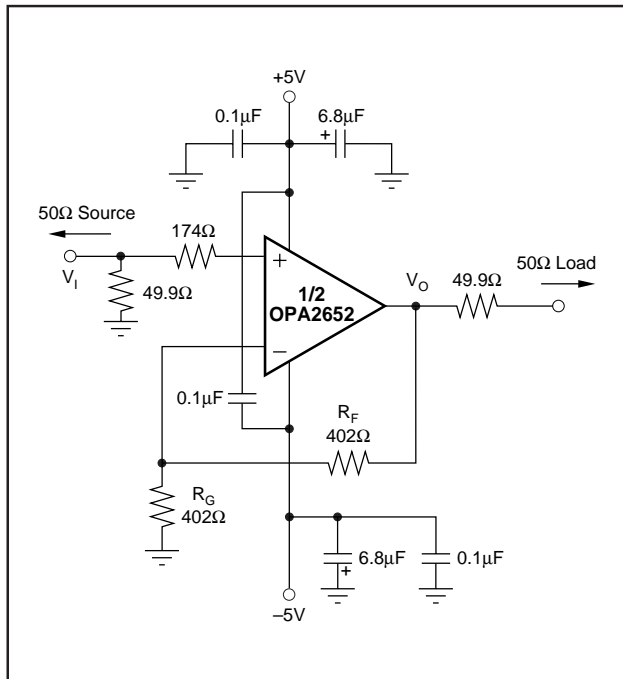
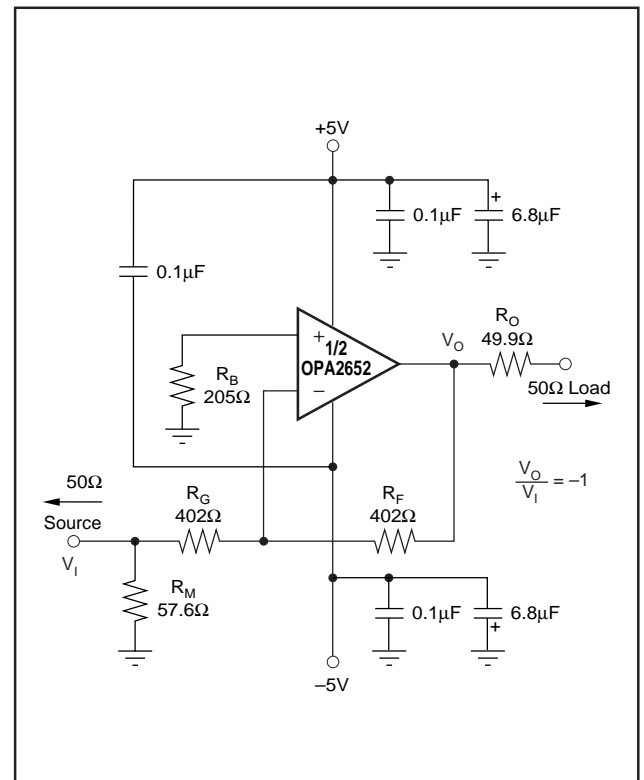

FIGURE 1. DC-Coupled,  $G = +2$ , Bipolar Supply, Specification and Test Circuit.
FIGURE 2. DC-Coupled,  $G = -1$ , Bipolar Supply, Specification and Test Circuit.
At  $T_A = +25^\circ C$ ,  $G = +2$ ,  $R_F = 402\Omega$ , and  $R_L = 100\Omega$ , unless otherwise noted. See Figures 1 and 2.
Figure 1 shows the DC-coupled, gain of +2, dual power supply circuit configuration used as the basis of the  $\pm 5\text{V}$  Specifications and Typical Performance Curves. This is for one channel. The other channel is connected similarly. For test purposes, the input impedance is set to  $50\Omega$  with a resistor to ground and the output impedance is set to  $50\Omega$  with a series output resistor. Voltage swings reported in the specifications are taken directly at the input and output pins, while output powers (dBm) are at the matched  $50\Omega$  load. For the circuit of Figure 1, the total effective load will be  $100\Omega \parallel 804\Omega$ . Two optional components are included in Figure 1.
Figure 2 shows the DC-coupled gain of  $-1$ , bipolar supply circuit configuration which is the basis of the Specifications and Typical Performance Curves at  $G = -1$ . The input impedance matching resistor ( $57.6\Omega$ ) used for testing gives a  $50\Omega$  input load. A resistor ( $205\Omega$ ) connects the non-inverting input to ground. This provides the DC source resistance matching to cancel outputs errors due to input bias current.
A good rule of thumb is to target the parallel combination of  $R_F$  and  $R_G$  (Figure 1) to be less than approximately 300Ω. The combined impedance  $R_F \parallel R_G$  interacts with the inverting input capacitance, placing an additional pole in the feedback network, and thus a zero in the forward response. Assuming a 2pF total parasitic on the inverting node, holding  $R_F \parallel R_G < 300\Omega$  will keep this pole above 250MHz. By itself, this constraint implies that the feedback resistor  $R_F$  can increase to several kΩ at high gains. This is acceptable as long as the pole formed by  $R_F$  and any parasitic capacitance appearing in parallel is kept out of the frequency range of interest.
Voltage feedback op amps exhibit decreasing closed-loop bandwidth as the signal gain is increased. In theory, this relationship is described by the Gain Bandwidth Product (GBP) shown in the specifications. Ideally, dividing GBP by the non-inverting signal gain (also called the Noise Gain, or NG) will predict the closed-loop bandwidth. In practice, this only holds true when the phase margin approaches  $90^\circ$ , as it does in high gain configurations. At low gains (increased feedback factor), most amplifiers will exhibit a wider bandwidth and lower phase margin. The OPA2652 is compensated to give a flat response in a non-inverting gain of 1 (Figure 1). This results in a typical gain of +1 bandwidth of 700MHz, far exceeding that predicted by dividing the 200MHz GBP by  $NG = 1$ . Increasing the gain will cause the phase margin to approach  $90^\circ$  and the bandwidth to more closely approach the predicted value of  $(GBP/NG)$ . At a gain of +5, the 45MHz bandwidth shown in the Typical Specifications is close to that predicted using this simple formula.
Since the OPA2652 is a general purpose, wideband voltage feedback op amp, all of the familiar op amp application circuits are available to the designer. Inverting operation is one of the more common requirements and offers several performance benefits. Figure 2 shows a typical inverting configuration.
In the inverting configuration, three key design consideration must be noted. The first is that the gain resistor ( $R_G$ ) becomes part of the signal channel input impedance. If input impedance matching is desired (which is beneficial whenever the signal is coupled through a cable, twisted pair, long PC board trace or other transmission line conductor),  $R_G$  may be set equal to the required termination value and  $R_F$  adjusted to give the desired gain. This is the simplest approach and results in optimum bandwidth and noise performance. However, at low inverting gains, the resultant feedback resistor value can present a significant load to the amplifier output. For an inverting gain of  $-1$ , setting  $R_G$  to  $50\Omega$  for input matching eliminates the need for  $R_M$  but requires a  $50\Omega$  feedback resistor. This has the interesting advantage that the noise gain becomes equal to 2 for a  $50\Omega$  source impedance—the same as the non-inverting circuits considered above. However, the amplifier output will now see the  $50\Omega$  feedback resistor in parallel with the external load. In general, the feedback resistor should be limited to the  $200\Omega$  to  $1.5k\Omega$  range. In this case, it is preferable to increase both the  $R_F$  and  $R_G$  values as shown in Figure 2, and then achieve the input matching impedance with a third resistor ( $R_M$ ) to ground. The total input impedance becomes the parallel combination of  $R_G$  and  $R_M$ .
The second major consideration, touched on in the previous paragraph, is that the signal source impedance becomes part of the noise gain equation and influences the bandwidth. For the example in Figure 2, the  $R_M$  value combines in parallel with the external  $50\Omega$  source impedance, yielding an effective
driving impedance of  $50\Omega \parallel 57.6\Omega = 26.8\Omega$ . This impedance is added in series with  $R_G$  for calculating the noise gain (NG). The resultant NG is 1.94 for Figure 2, (an ideal  $0\Omega$  source would cause  $NG = 2.00$ ).
The third important consideration in inverting amplifier design is setting the bias current cancellation resistor on the non-inverting input ( $R_B$ ). If this resistor is set equal to the total DC resistance looking out of the inverting node, the output DC error, due to the input bias currents, will be reduced to  $(\text{Input Offset Current}) \cdot R_F$ . If the  $50\Omega$  source impedance is DC-coupled in Figure 2, the total resistance to ground on the inverting input will be  $429\Omega$ . Combining this in parallel with the feedback resistor gives  $208\Omega$ , which is close to the  $R_B = 205\Omega$  used in Figure 2. To reduce the additional high frequency noise introduced by this resistor, it is sometimes bypassed with a capacitor. As long as  $R_B < 300\Omega$ , the capacitor is not required since its total noise contribution will be much less than that of the op amp's input noise voltage.
The OPA2652 provides good distortion performance into a 100Ω load on ±5V supplies. Increasing the load impedance improves distortion directly. Remember that the total load includes the feedback network; in the non-inverting configuration (Figure 1) this is sum of  $R_F + R_G$ , while in the inverting configuration, it is just  $R_F$ . Also, providing an additional supply decoupling capacitor (0.1μF) between the supply pins (for bipolar operation) improves the 2nd-order distortion slightly (3dB to 6dB).
Evaluating these two equations for the OPA2652 circuit and component values shown in Figure 1 will give a total output spot noise voltage of 17nV/√Hz and a total equivalent input spot noise voltage of 8.4nV/√Hz. This is including the noise added by the bias current cancellation resistor (205Ω) on the non-inverting input. This total input-referred spot noise voltage is only slightly higher than the 8nV/√Hz specification for the op amp voltage noise alone. This will be the case as long as the impedances appearing at each op amp input are limited to the previously recommended maximum value of 300Ω. Keeping both ( $R_F \parallel R_G$ ) and the non-inverting input source impedance less than 300Ω will satisfy both noise and frequency response flatness considerations. Since the resistor-induced noise is relatively negligible, additional capacitive decoupling across the bias current cancellation resistor ( $R_B$ ) for the inverting op amp configuration of Figure 2 is not required.
The balanced input stage of a wideband voltage feedback op amp allows good output DC accuracy in a wide variety of applications. Although the high speed input stage does require relatively high input bias current (typically 4μA out of each input terminal), the close matching between them may be used to significantly reduce the output DC error caused by this current. This is done by matching the DC source resistances appearing at the two inputs. This reduces the output DC error due to the input bias currents to the offset current times the feedback resistor. Evaluating the configuration of Figure 1, using worst-case +25°C input offset voltage and current specifications, gives a worst-case output offset voltage equal to:
As an example, compute the maximum  $T_J$  using an OPA2652E (SOT23-8 package) in the circuit of Figure 1 operating at the maximum specified ambient temperature of  $+85^{\circ}\text{C}$  and with both outputs driving  $2.5V_{DC}$  into a grounded  $100\Omega$  load.